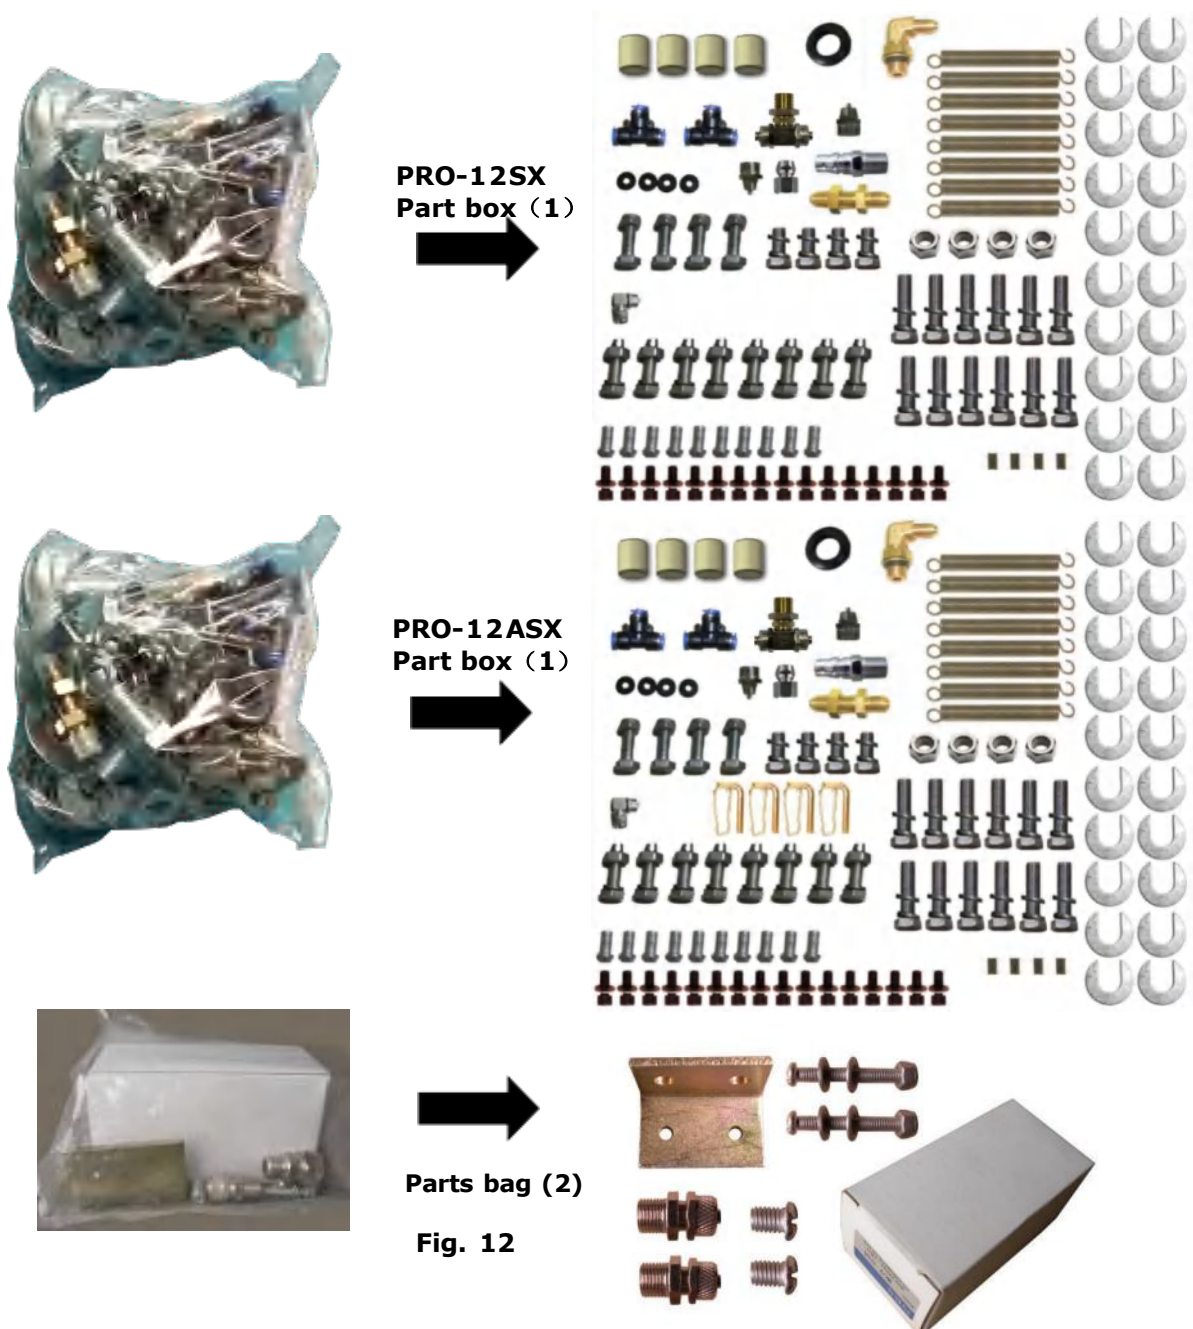

Fig. 12
7. Check the parts of the parts bag according to the parts bag list (See Fig. 12)